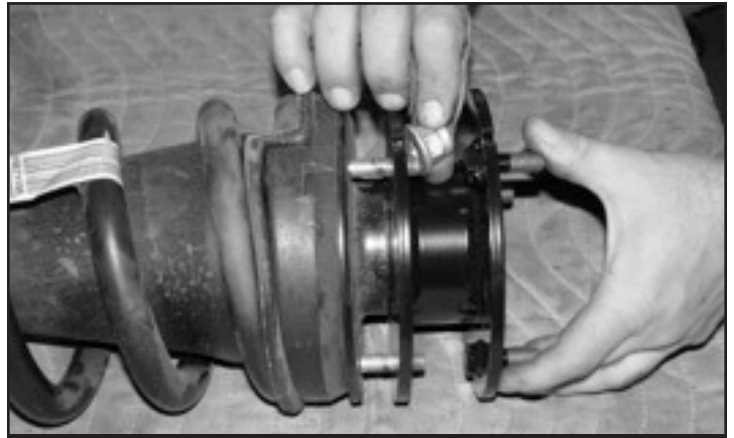

FIGURE 34 - STEP 34
34. Install the FT20560BK coil spacer using the factory nuts and torque to 30 ft-lbs. **SEE FIGURE 34**